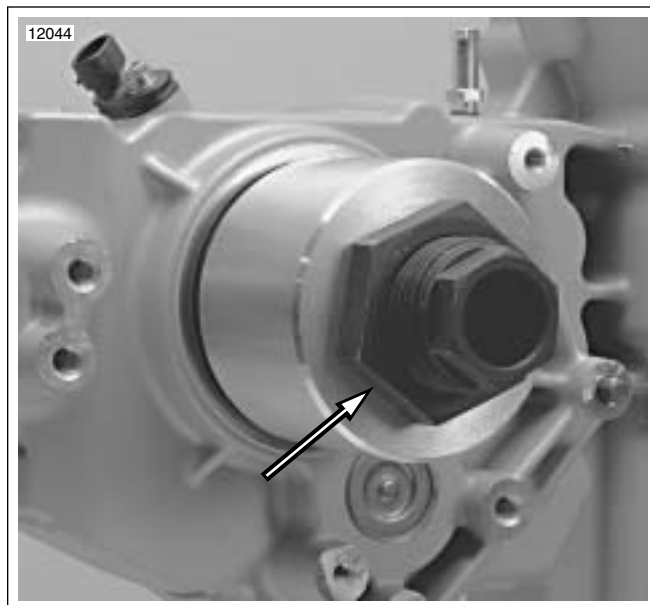

Figure 6-81. Install Nut (Part No. HD-47856-5) (Typical)
6. See Figure 6-81. Thread nut (Part No. HD-47856-5) onto end of adapter, until it tightens against installer.